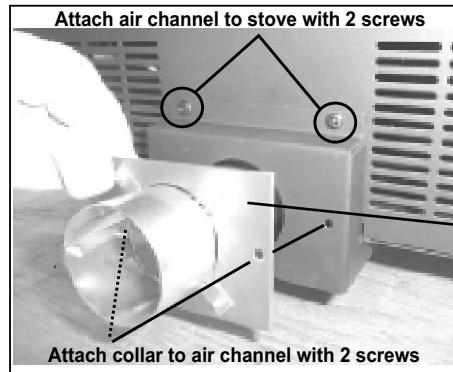

Figure 17.3
- Secure air channel to appliance with 2 screws and secure the collar assembly to the air channel with 2 screws. **Figure 17.3**.